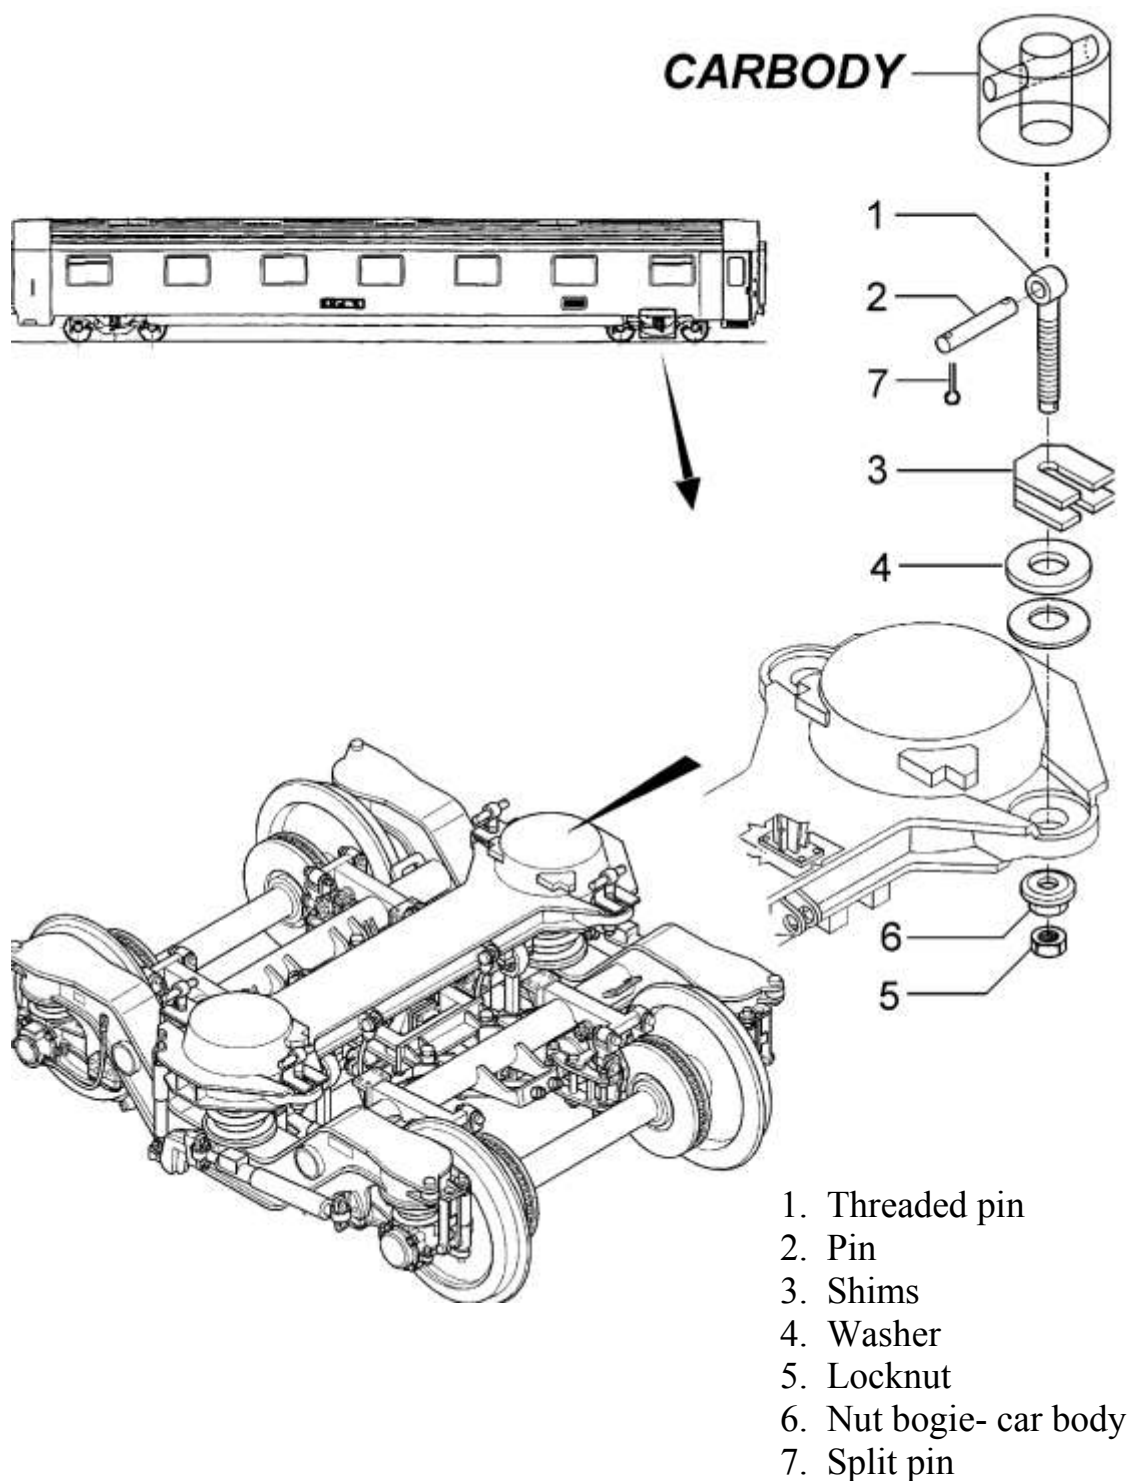

FIG. 4-17 Disconnection of the Bolster Beam
Unscrew the locknut (5 - FIG. 4-17) and the nut linking body and bogie (6). The bogie is disconnected from the car body. When the coach body is lifted, check that washers (4) and shims (3) remain on the bolster beam. Items (1), (2) and (3) remain attached to the coach body: in order to remove them, extract the split pins (7), remove the pin (2) and finally the threaded pin (1).